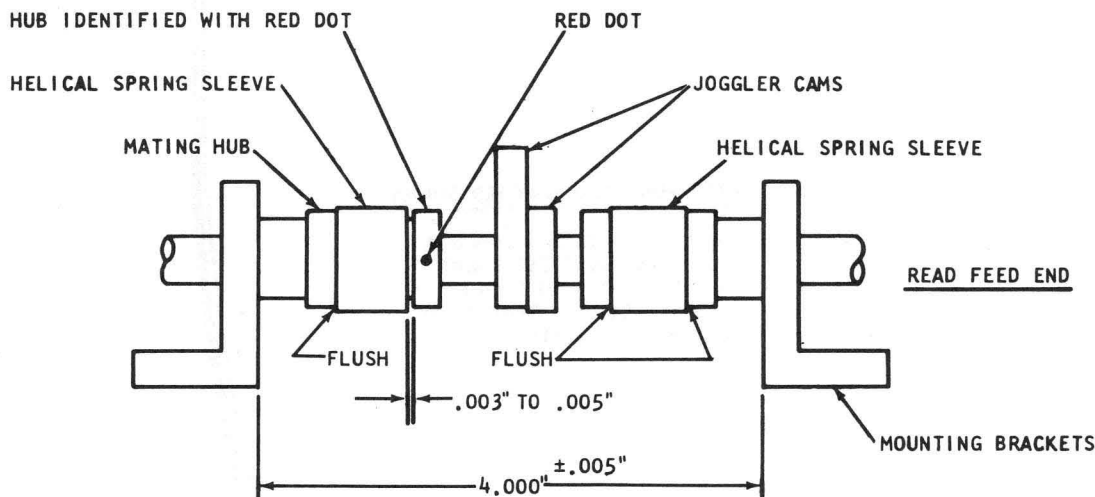

Figure 3-42. Center Stacker Joggler Assembly
2. Maintain $4.000" \pm .005"$ between bases of two inside bearing brackets. See Figure 3-42.